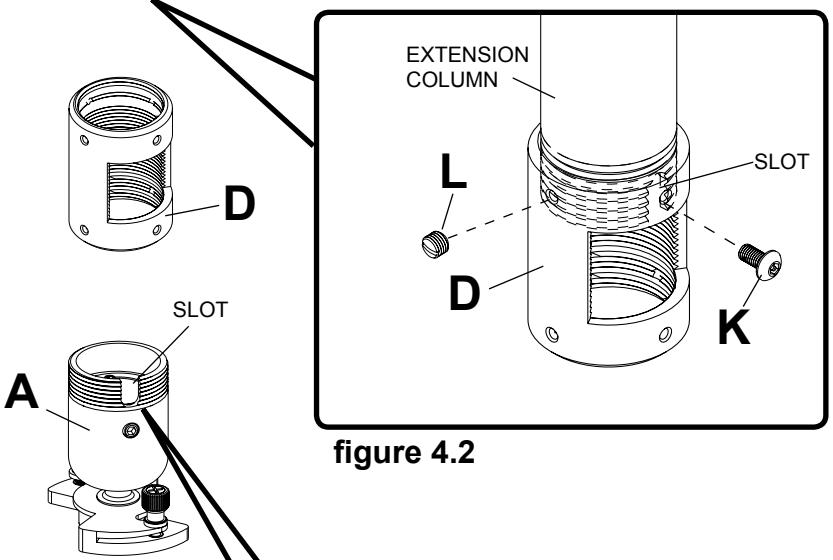

figure 4.2
Screw extension column connector (D) to extension column. Align slot in extension column with one of the top holes in extension column connector (D). Insert and tighten one #10-32 x 3/8" socket pin screw (K) through extension column connector (D) into slot on extension column using security allen wrench (U). **See figure 4.2**